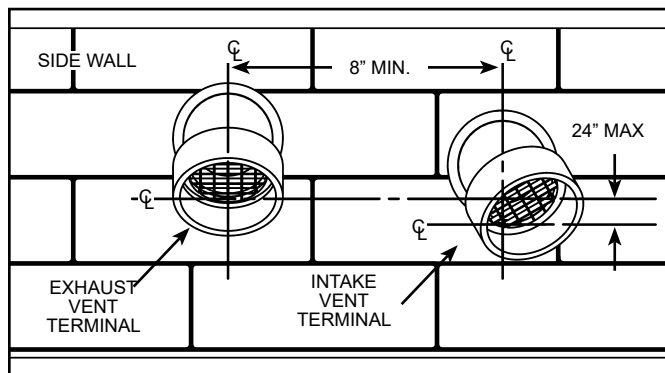

Figure 22.
Important: When terminating the vent on a side wall, the following specifications pertaining to terminal location must be followed (see Figure 22).
4. To avoid exhaust recirculation, the air intake terminal may be rotated away from the exhaust vent terminal (see Figure 22).